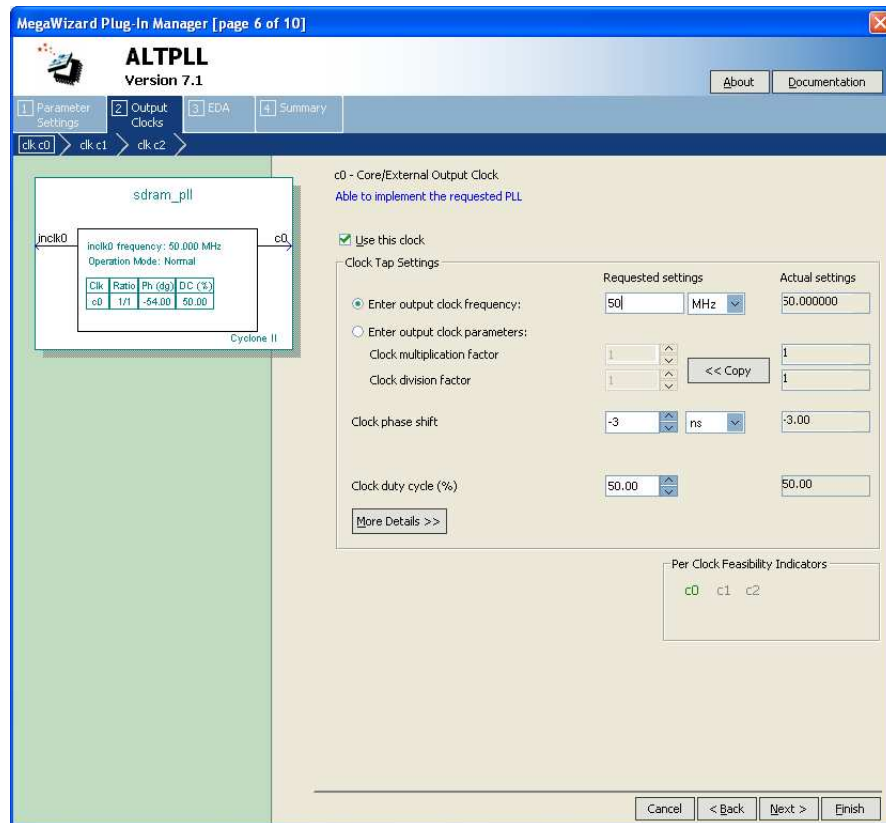

Figure 15. Specify the phase shift.
- We are interested only in the input signal *inclk0* and the output signal *c0*. Remove the other two signals shown in the block diagram in the figure by de-selecting the optional input *areset* as well as the locked output, as indicated in the figure. Click **Next** on this page as well as on page 5, until you reach page 6 which is shown in Figure 15.